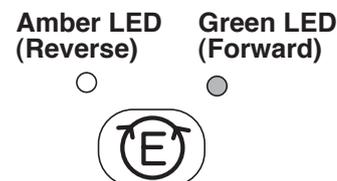

Fig.3-13 Electric Motor Rotation Direction Switch
⑩ Electric Motor Rotation Direction Switch (Optional) (Fig.3-13) **E**